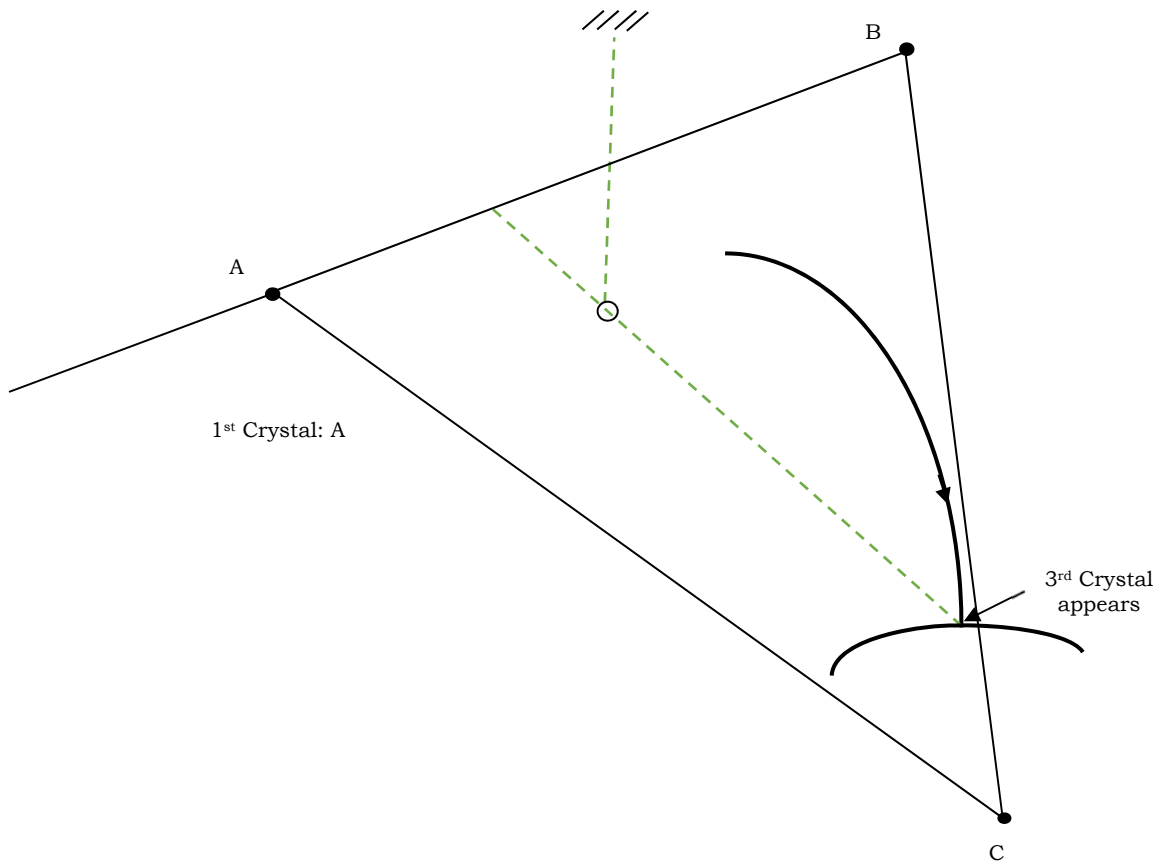

Figure 3. Third crystal
6. Continue to walk down the river (boundary) until a second (tributary) boundary line is encountered. The mountain encountered, across that boundary line, is the third crystal, C, to form at the temperature where the second boundary line was encountered as shown in Figure 3.